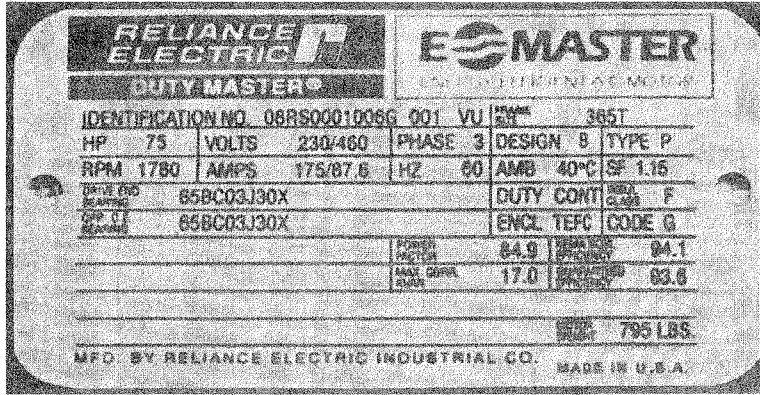

Figure Q3
b) Consider the motor nameplate shown in Figure Q3.